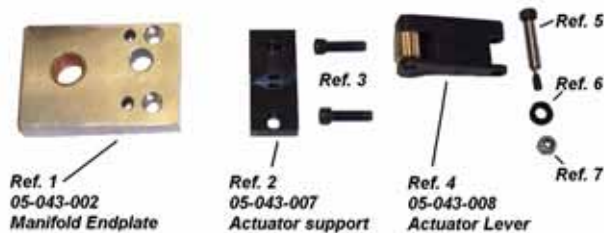

Figure 5. Removable components of the hydraulic manifold.
4. Reinstall the actuator lever (Figure 5, Ref. 4), actuator support (Figure 5, Ref. 2), and the manifold endplate (Figure 5, Ref. 1) to the hydraulic manifold.